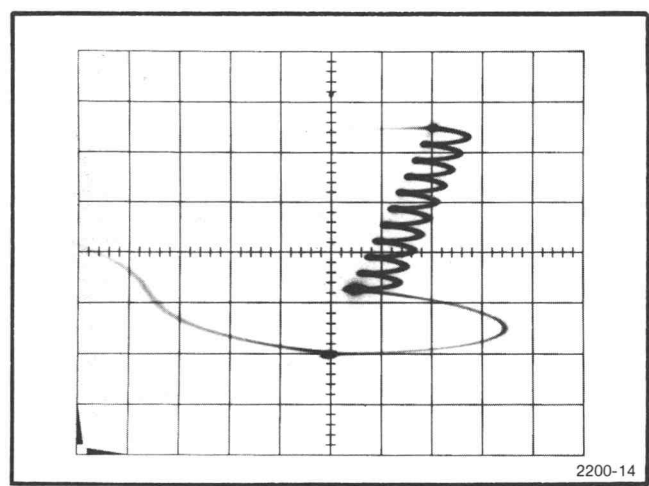

Fig. 2-7. ICPM example.
**EXAMPLE:** An oscilloscope set up for XY operation gives the display shown in Fig. 2-7. The peak white of a 10 step staircase signal is the maximum point of tilt from the center (0° line). The vertical amplifier is set for 0.2V/div, and the horizontal amplifier is set for 20mV/div. The peak white is located 4.5 vertical divisions and 2 horizontal divisions from the zero carrier reference pulse. Find the amount of ICPM.